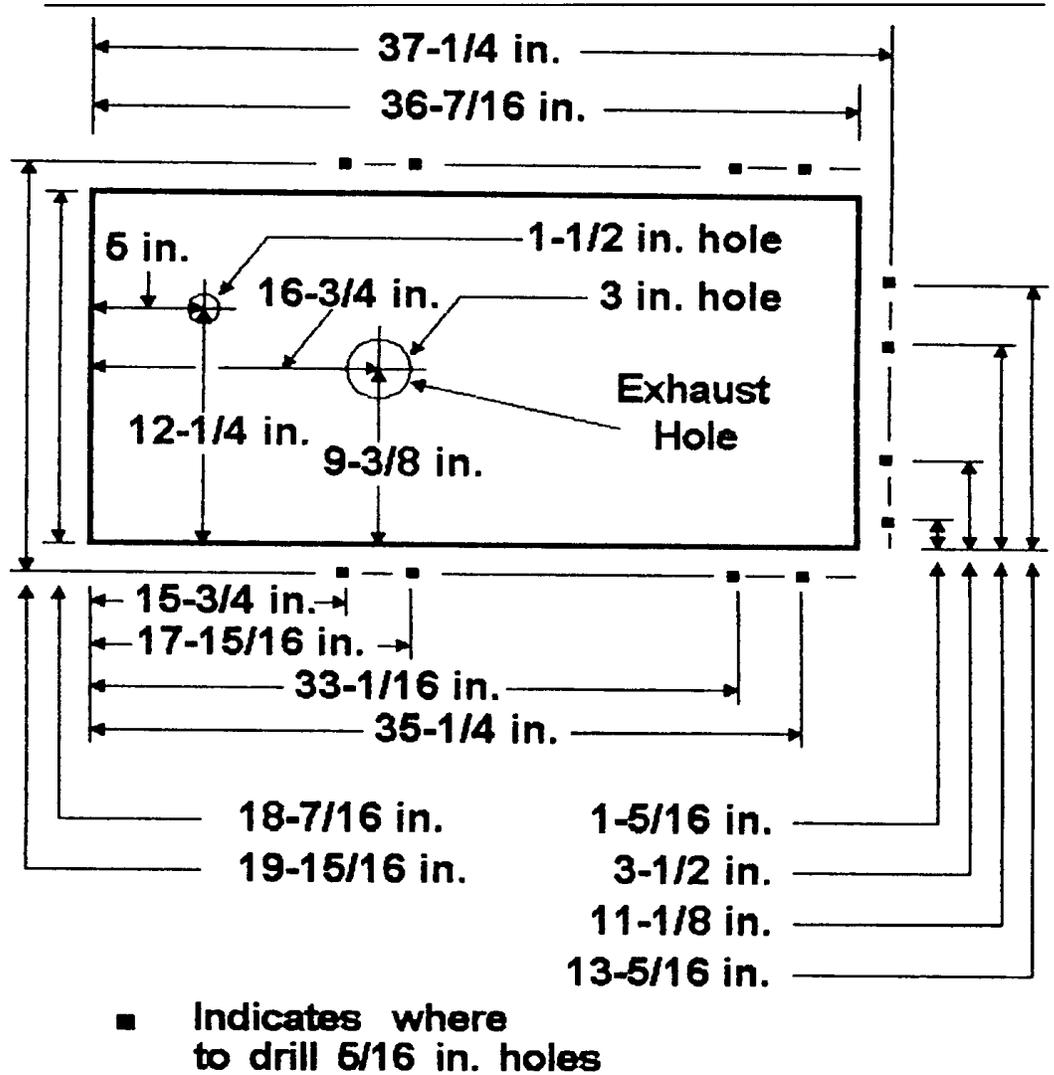

Figure 6
Figure 6 provides mounting information, such as:
- A. Drill all the necessary holes prior to mounting the Aqua-Hot permanently into place, see Figure 6. All four mounting brackets supplied must be installed to ensure the Aqua-Hot does not move or shift under normal operating conditions.
**NOTE:** Only eight mounting bracket bolt holes (5/16") need to be drilled, see Figure 6. Choose the four best mounting positions available. Be sure to drill the hole for the exhaust system and the tank drain hole prior to placing the Aqua-Hot into the permanent mounting position.